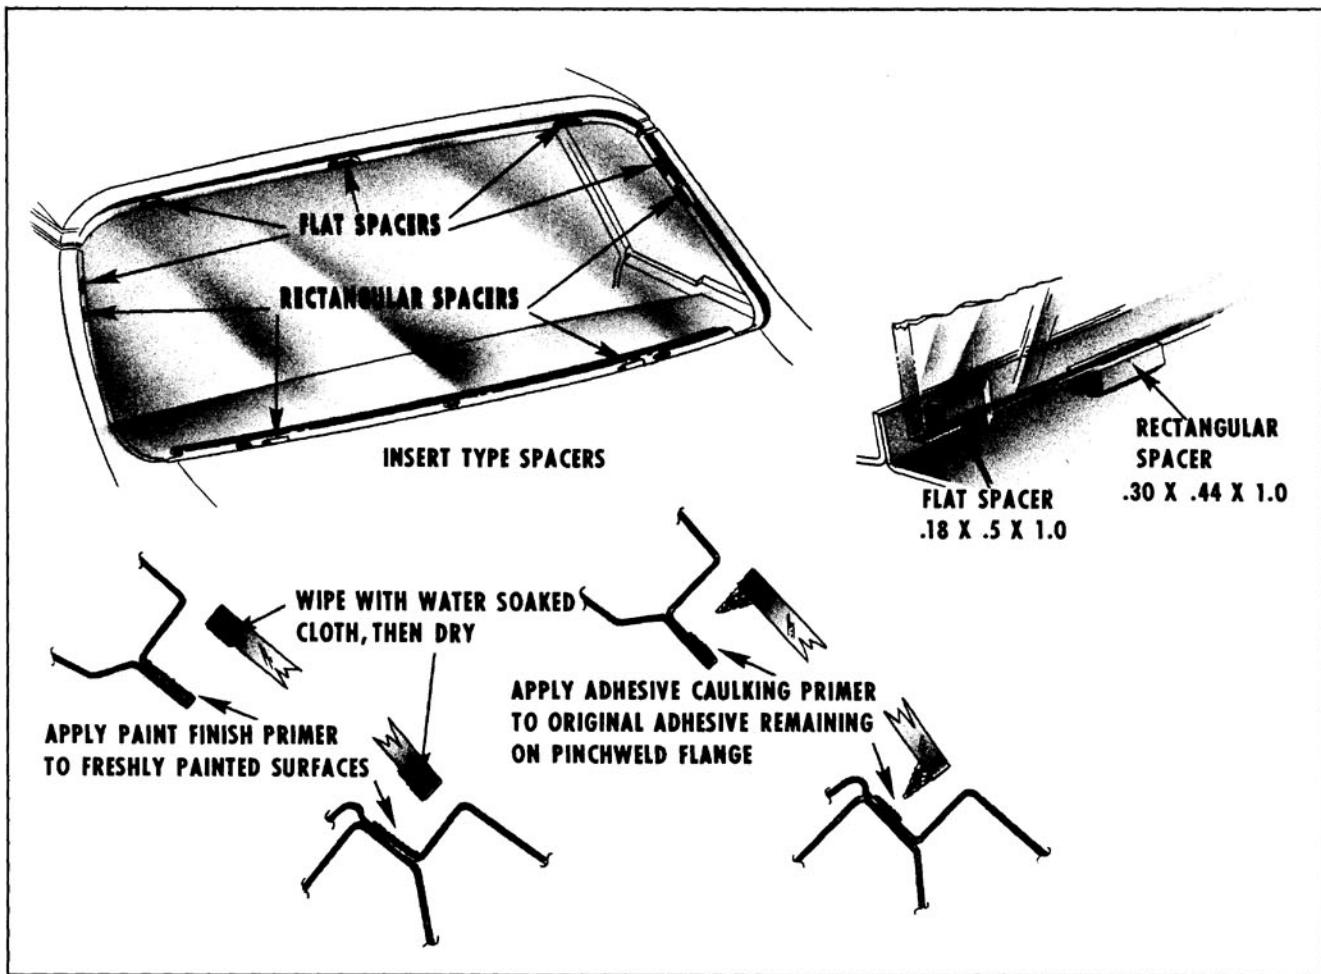

Fig. 16-466 Back Window Installation
2. Cement five flat (.180" x .5" x 1.0") spacers to back window upper and side pinchweld flanges with black weatherstrip adhesive as described below and illustrated in Fig. 16-466.
3. Insert three .180 x .24 x .74 insert type spacers into slots in compartment front and shelf panel across lower edge of back window opening. (Fig. 16-466)
4. Using black weatherstrip adhesive, cement four rectangular spacers (.30 x .44 x 1.0) to lower and side back window opening rabbet as described below and illustrated in Fig. 16-466.